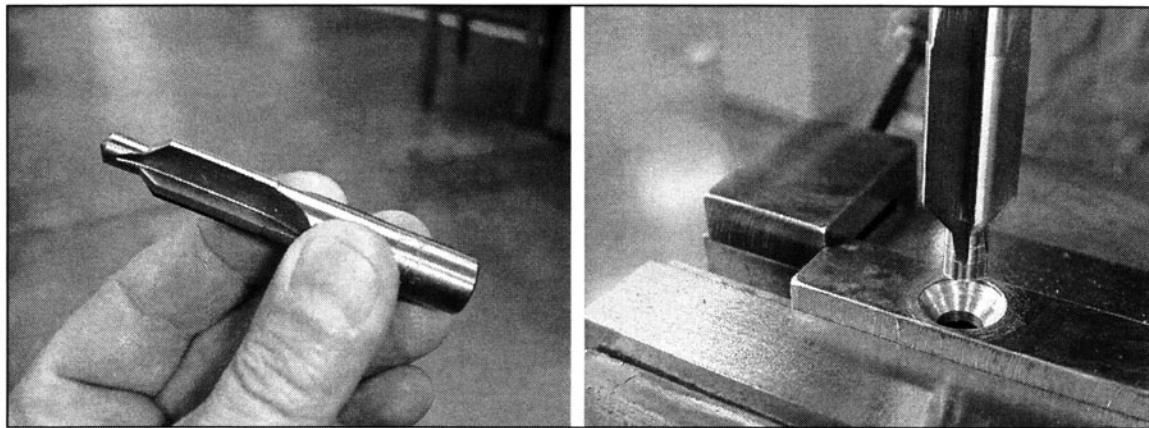

FIGURE 4-11 Dedicated countersinks work great for cutting clean, on-size counter sunk holes. These cutters were made by Cleveland Twist Drill.
14. *Countersink screw holes with dedicated countersink bits. (See Fig. 4-11)*